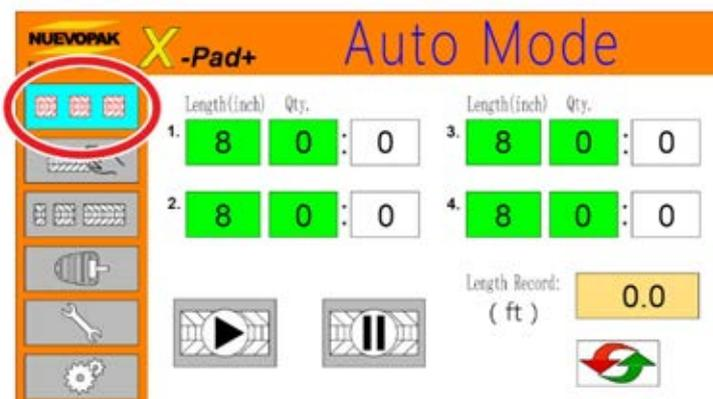

Figure 29 Select Auto Mode Key
Auto Mode dispenses up to four (4) pre-set lengths and quantities in a sequence (refer to Figure 29).